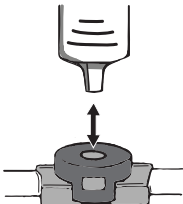

Figure 2
A. SEPTUM ACCESS USING A LUER-SLIP DEVICE (SEE FIGURE 2)